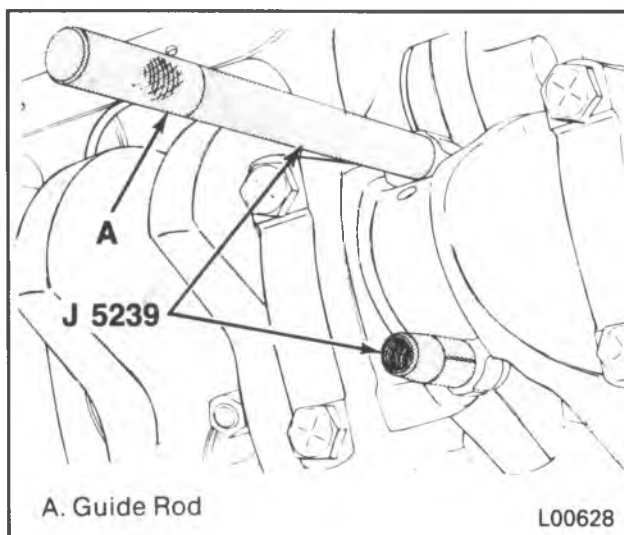

Figure 30 — Replacing the Connecting Rod and Piston
Remove or Disconnect (Figure 30)
- Attach J 5239 to the connecting rod bolts (figure 30).
Install or Connect (Figures 30 through 34)
- With the connecting rod cap removed, install J 5239 onto the connecting rod studs (figure 30).
- Place the piston in the cylinder it was removed from. Using light blows with a hammer handle, tap the piston down into the cylinder (figure 33). At the same time, from beneath the vehicle, guide the connecting rod to the crankpin with J 5239 (figure 30). Hold the ring compressor against the block until all rings have entered the cylinder.